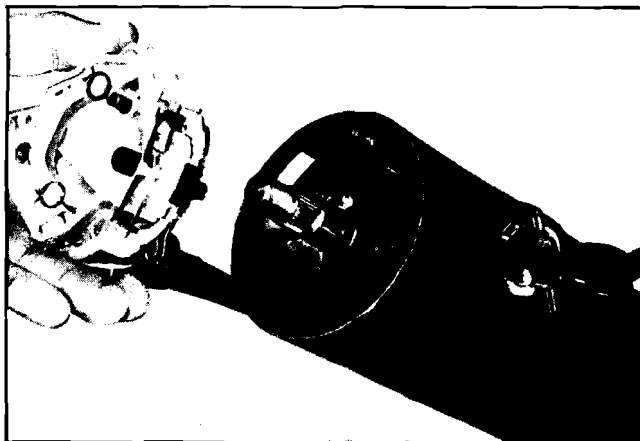

Fig. 9-6 Removing Turn Signal Switch
10. Pull the switch straight up with wire protector and remove from housing (Fig. 9-6).